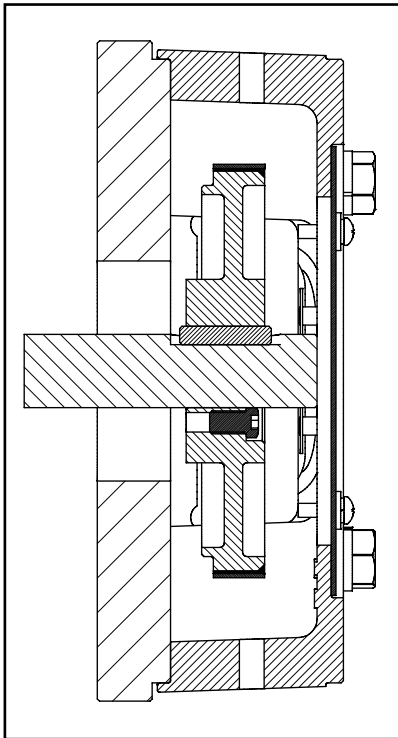

FIGURE 2
2. Slide the rotor on the shaft (option "B" or "T"), ensuring the rotor label "this side out" is away from the motor and shaft key engages keyway in rotor. The space between the mounting face and the rotor must be set to 0.584" [14.83mm], as shown in Figure 2. Use Avtron gauges (A35226 or A25355) or housing alignment grooves as shown in Figure 5 to verify position. (Note: if optional inboard seal or shield plate is used, gage the rotor location from the seal shield plates. See Figure 3.) Turn the cam screw of the rotor in the directions shown on the rotor to engage the cams. Tighten to 9-10 ft-lb (12.3- 13.5 n-m). **Total cam screw rotation will be less than one turn.**